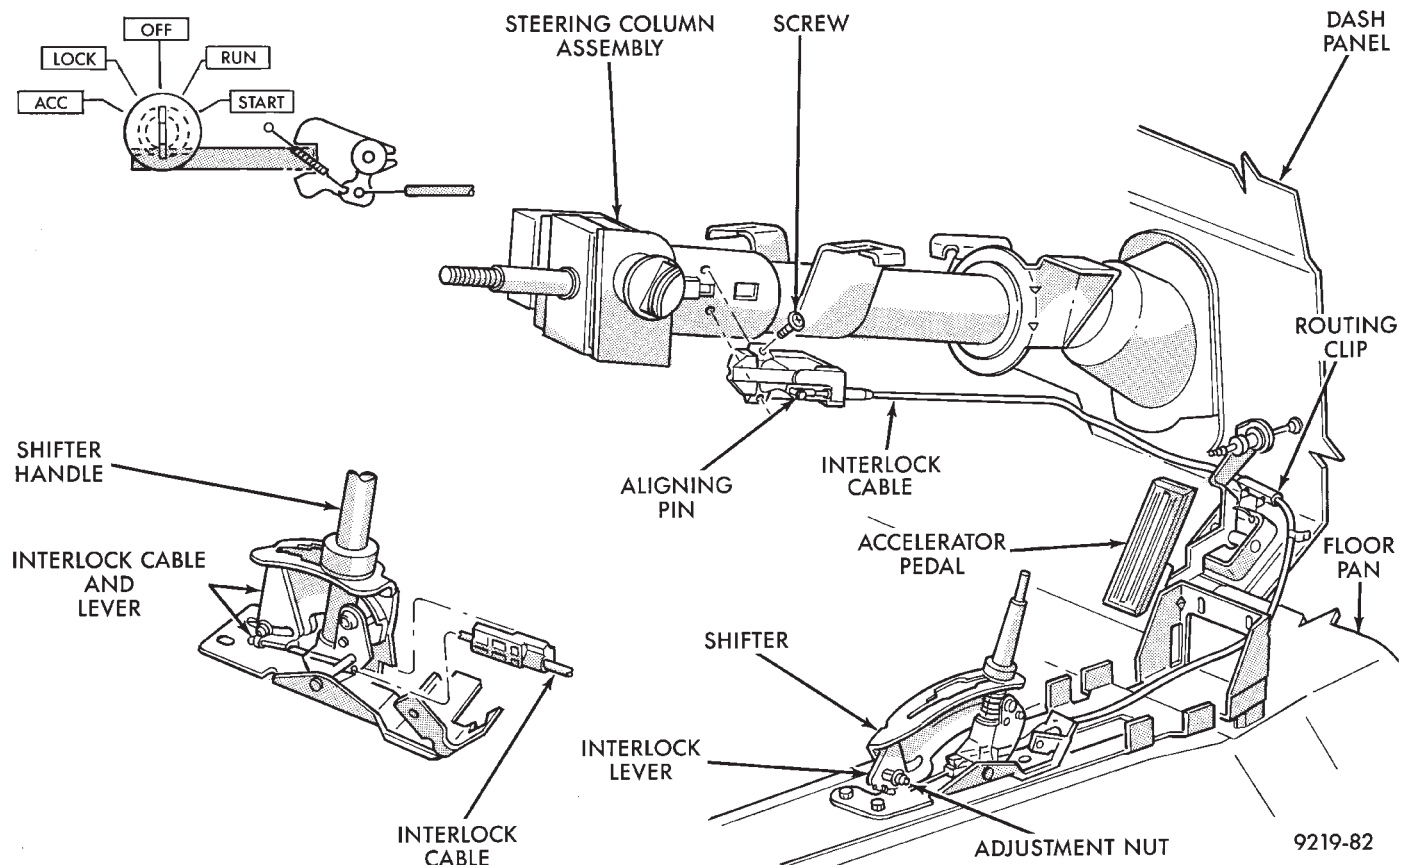
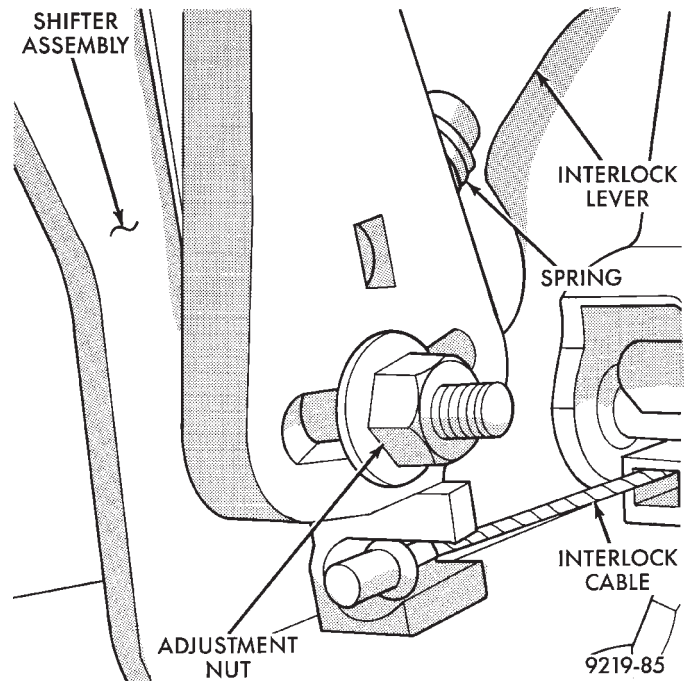

Fig. 1 Shifter Ignition Interlock System Components
Fig. 4 Adjusting Interlock Lever
The automatic transmission Shifter/Ignition Interlock, is a mechanically cable operated system (Fig. 1). It interconnects the automatic transmission floor mounted shifter to the steering column ignition switch. The interlock system locks the floor mounted shifter on automatic transmission equipped vehicles into the PARK position. The Interlock system is engaged whenever the ignition switch is in the LOCK or ACCESSORY position. When the key is in the OFF or RUN position the shifter is unlocked and will move into any position. The interlock system also prevents the ignition switch from being turned to the OFF or ACCESSORY position. Unless the shifter is fully locked into the PARK position.
(6) Check that the ignition switch is still in the accessory position (Fig. 1). Loosen the shifter interlock lever adjustment nut, (Fig. 4) enough to allow the spring to correctly position the interlock lever on the shifter assembly.
(7) Then torque the interlock lever adjustment nut to 2 N•m (15 in. lbs.) minimum 3 N•m (25 in. lbs.) maximum.